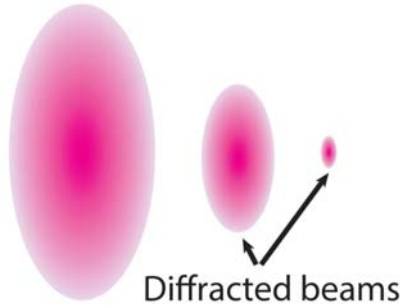

Figure 2. Diffracted beam intensity
8. Remove the beam block placed after A2. Observe the laser light pattern on the beam block placed after WP with NIR viewer scope. One should see two (or three) elliptical spots, corresponding to direct and diffracted beams (See Figure 2).